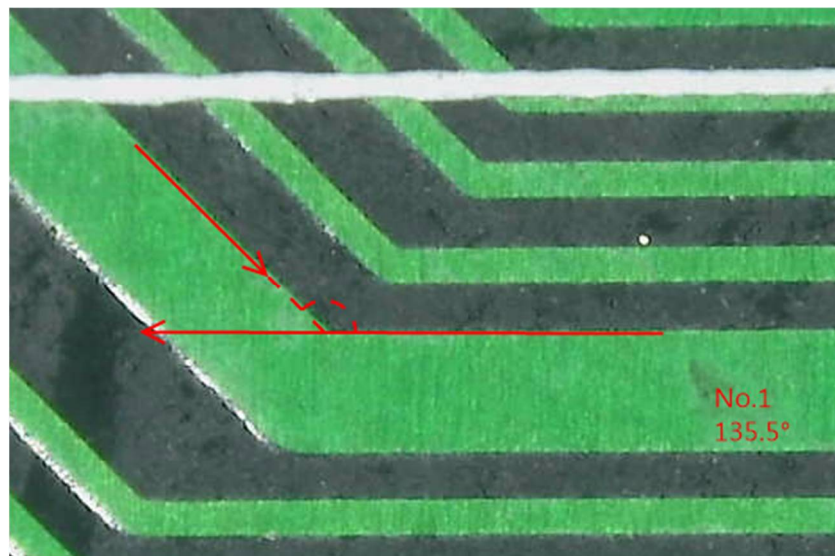
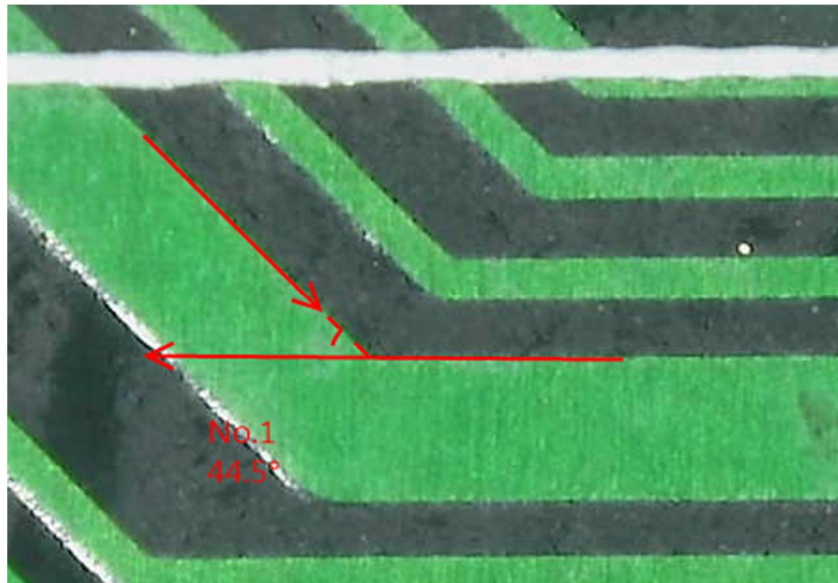

Fig 5-21 Measure 4 Point Angle
Fig 5-22 Measure Supplementary Angle
- (12) 4 Point Angle : When measuring the angle that can apply  tool. As Fig. 5-21 shown, firstly draw a line segment on one side of Angle, then draw 2nd line segment on the other side of Angle, that can know the angle. The inner angle is Int.135°, the external angle is Ext.45°, the dotted Arc is the measured angle. Can also choose to show Reflex Angle  or Supplementary Angle . See Fig 5-22 & 5-23.